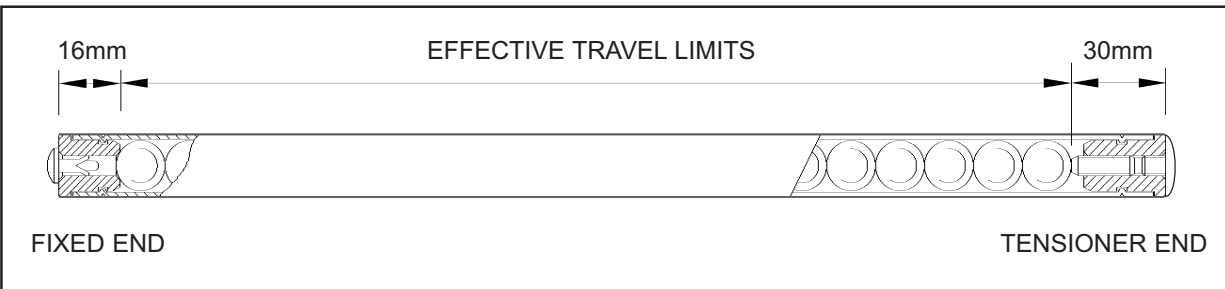

Figure 5.1 - Spherosyn Scale
- (A) Erroneous readings will occur if the Reader Head is allowed to travel beyond the Effective Travel Limits. (Refer to Figure 5.1)
- (B) The pre-load on the balls are factory set via the set screw at the tensioner end. Do not tamper with or adjust the set screw as this will alter the calibration and accuracy specification of the scale. (Refer to Figure 5.1)